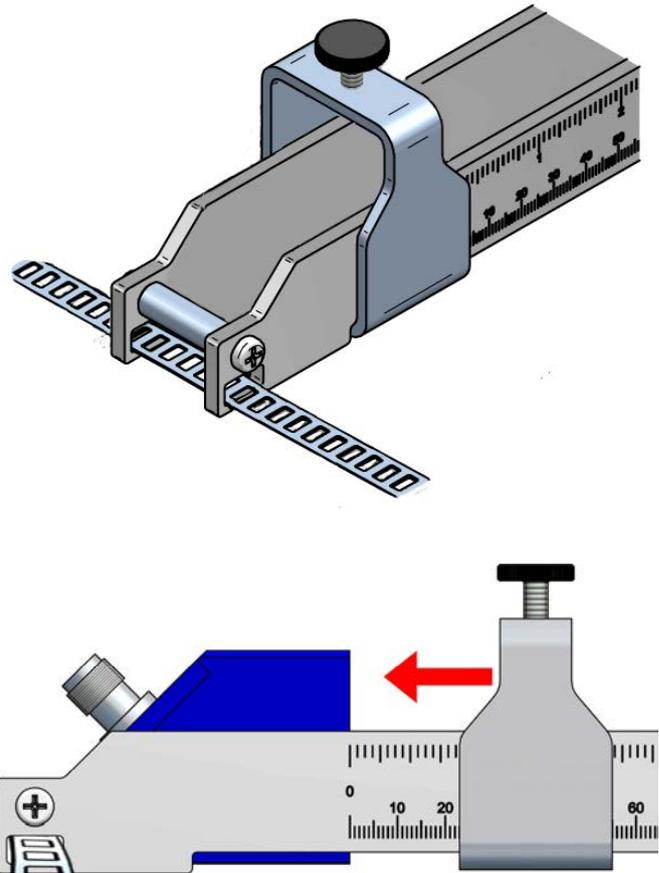

Fig. 4. Guide and guide strap
- Pipe DN80 ... DN350: by means of graduated guide and guide straps, supplied by Tecfluid (Fig. 4), V-type installation. Optional mounting by means of transducer straps (Fig. 5).